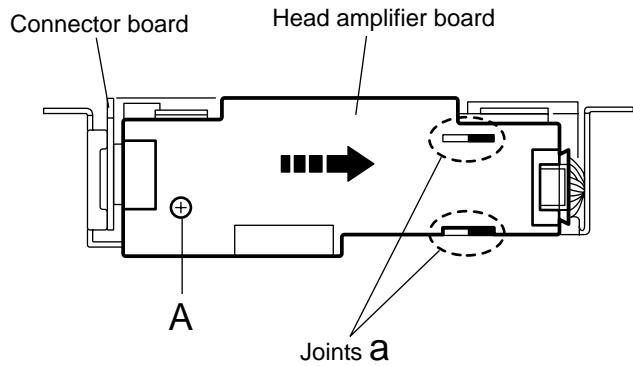

Fig.1
■ Removing the head amplifier board (See Fig.1)